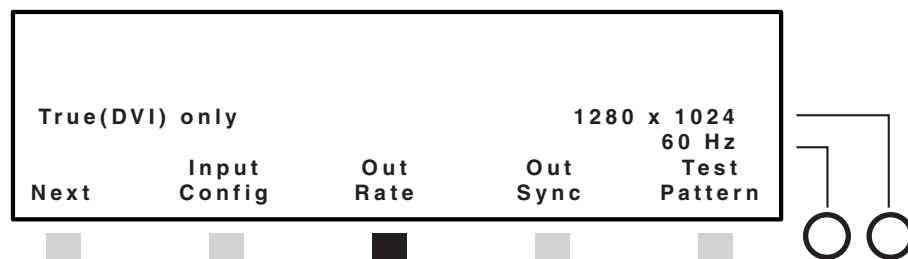

Figure 3-9 — Selecting the output rate
- Press the Out Rate button (figure 3-9).